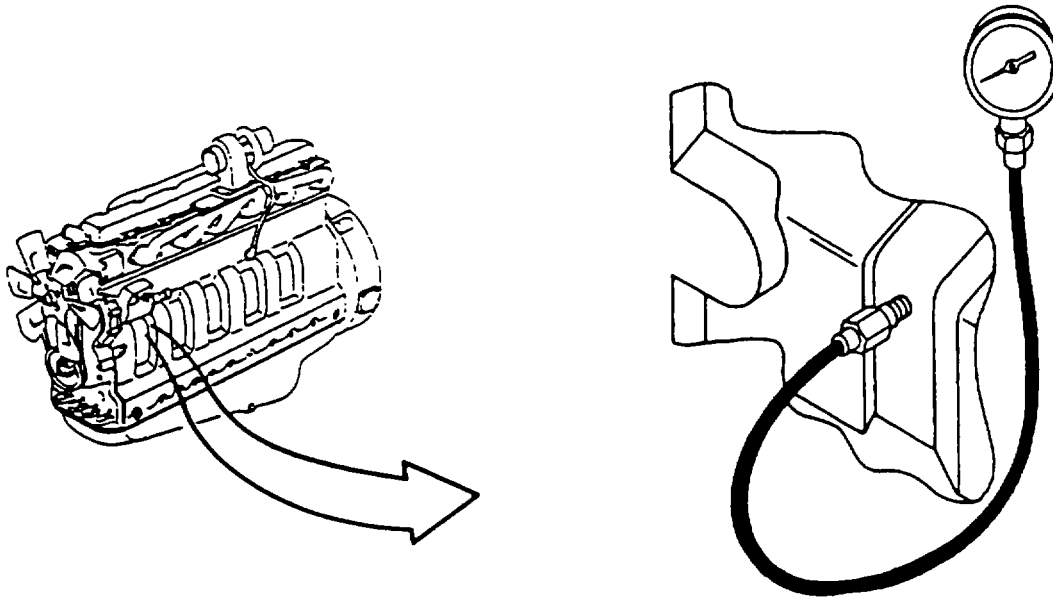

FIGURE 3-56. Oil Pressure Test Setup
- a. Attach pressure gage at pressure port shown on FIGURE 3-56.